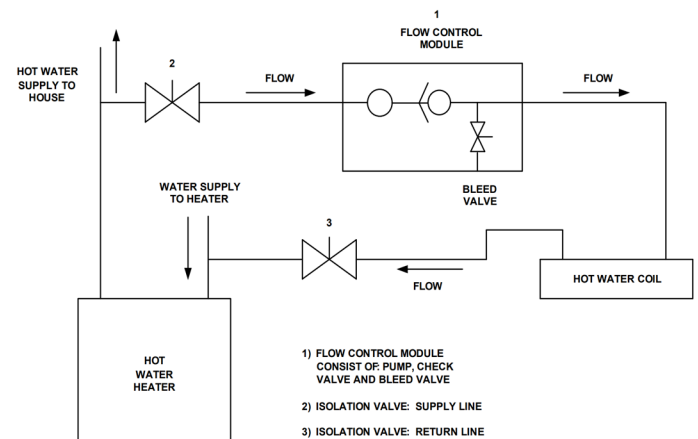

Figure 3 Piping Connections
**Isolation Valves** - Two valves are required to be installed within the circulating loop to permit servicing of the system if required and to assist in purging the system. (See figure 3)